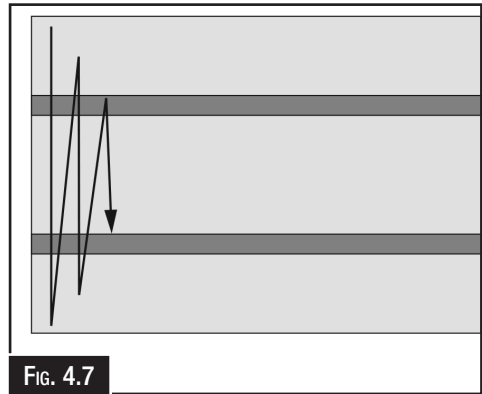

FIG. 4.7
1. From the starting point, roll the workpiece from the outside line on one side to the outside line on the opposite side. (Fig. 4.7)